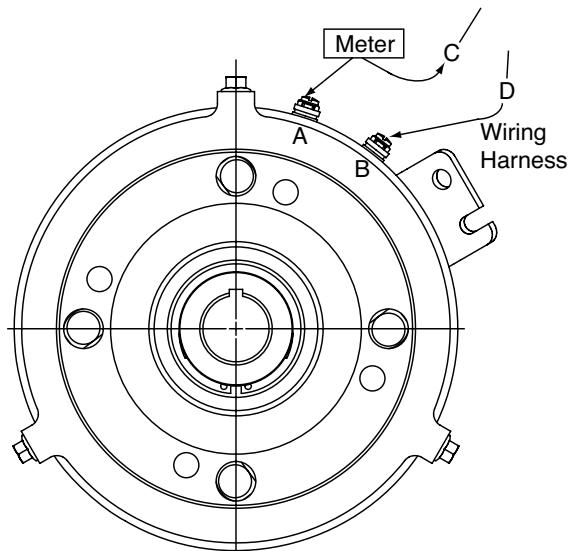

Figure 16
2. Disconnect clutch wire on one terminal, leaving other wire "D" connected to the clutch "B". (Figure 16)
4. Connect one meter lead wire to the clutch at "A" (Figure 16)
5. Connect the other meter lead wire to the corresponding wire from the harness at "C" (Figure 16)